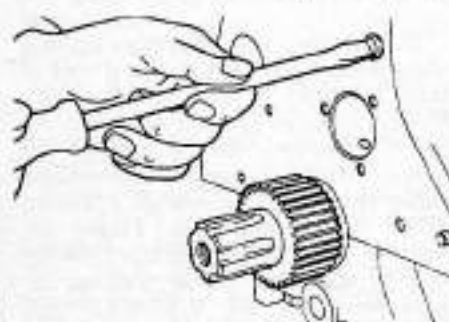

Fig. 67—View showing removal of oil supply restrictor for timing gears. Clean with compressed air and reinstall.
Install crankshaft gear on crankshaft with timing marks toward front. Remove oil supply restrictor for timing gears from engine block, clean with compressed air and reinstall. See Fig. 67. Install timing gear housing and press idler gear shaft into cylinder block. Install camshaft locating plate (6—Fig. 66) and tighten bolts to 34 N·m (25 ft.-lbs.) torque. Install camshaft gear (4) with timing marks towards front and tighten retaining bolt to 54 N·m (40 ft.-lbs.) torque. Secure with new lock wire. Install fuel injection pump on timing gear housing and install injection pump drive gear on tapered pump shaft with timing marks towards front. Tighten retaining nuts to 88 N·m (65 ft.-lbs.) torque and secure with tab washer.